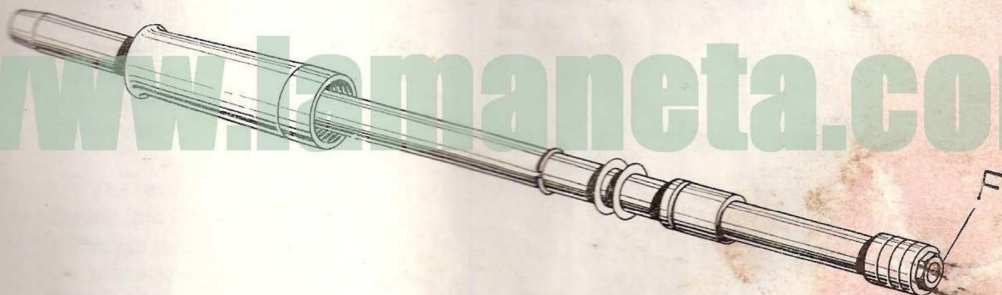

Fig. X4.
Grip the shaft in a vice using soft jaw clamps on the unground portion of the shaft and unscrew the gland nut (F) Fig. X4. Service Tool part number 61-3003 is designed for this purpose. Remove the gland nut which secures the lower bearing and both bearings, shims, circlip and oil seal holder will then slide off the shaft.